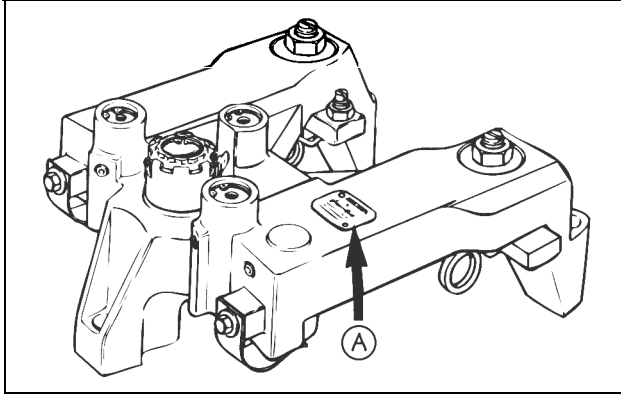

FIG. 1
The model, part number and serial number (A) are located on the nameplate at the top of each housing (see Fig. 1).